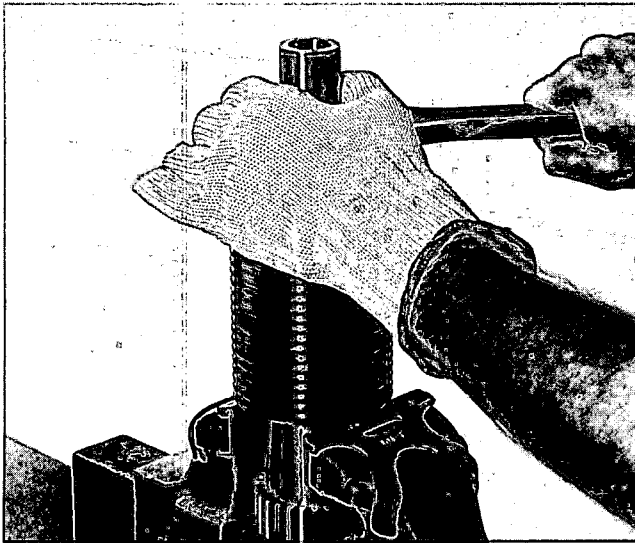

Figure 51 — Using spindle wrench to remove the spindle nut.
3. **Use spindle wrench** to remove nut, turning counterclockwise. Carefully slide knives and spacers off spindle (Figure 51).